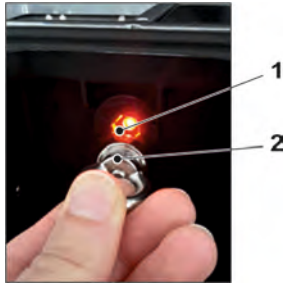

Fig. 31-20 Waking up the NivuFlow Mobile
2. “Waking up” NivuFlow Mobile: hold the accompanying magnet (solenoid, Fig. 31-20 no. 2) to the reed contact (Fig. 31-20 1; front side of NFM) until the LED is lit.